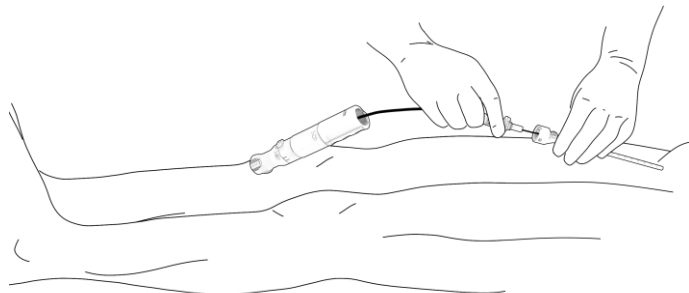

Figure 8. Advance the PerQseal® closure device to the Introducer-sheath.
- Advance the Loading cannula over the guidewire towards the Introducer-sheath hub, Figure 8. If difficulty is experienced tracking over the guidewire, ensure the guidewire is not kinked and that it is free of coagulated blood and thrombus.